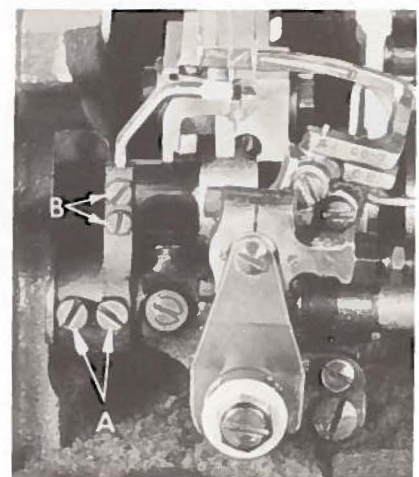

Fig. 9
Set the front needle guard so that it pushes the left 602 stitch needle back toward the path of the front loopers as it moves behind the needle. The looper may brush but not pick at this needle. It should be set as low as possible, yet have its vertical face push the needle until the point of the looper is just past the left side of the needle. The front needle guard should not contact the rear needle guard or right needle at any time. To move needle guard forward or rearward, loosen screws (A, Fig. 9), rotate needle guard holder as required and retighten screws. To raise, lower or rotate needle guard, loosen screws (B), reposition as necessary and retighten screws after guard is properly set.